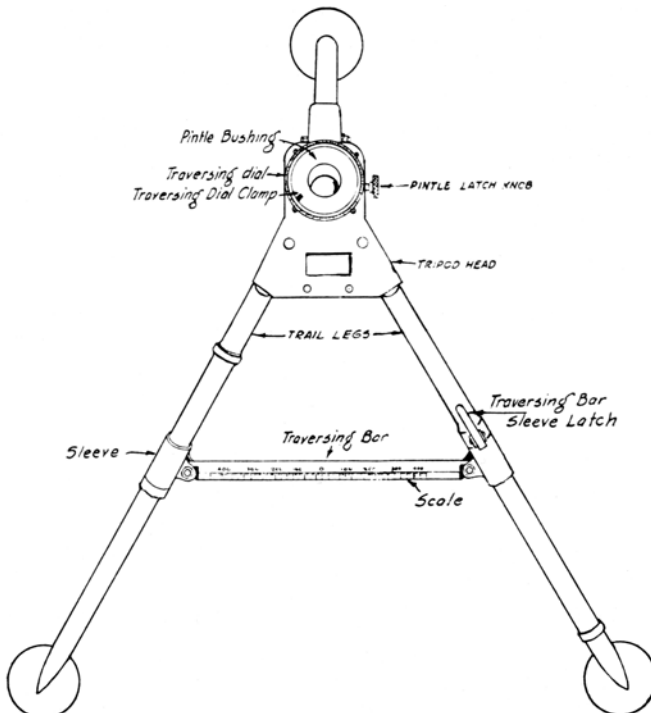

Fig 16.—Machine gun tripod M2 (schematic)
c. Incorporated in the tripod head (fig. 16) is a bronze bushing, mating with the tapered steel pintle permanently secured to the receiver of the light machine gun. The pintle is secured in its union with the bushing by engagement of the pintle latch of the tripod in its corresponding annular groove